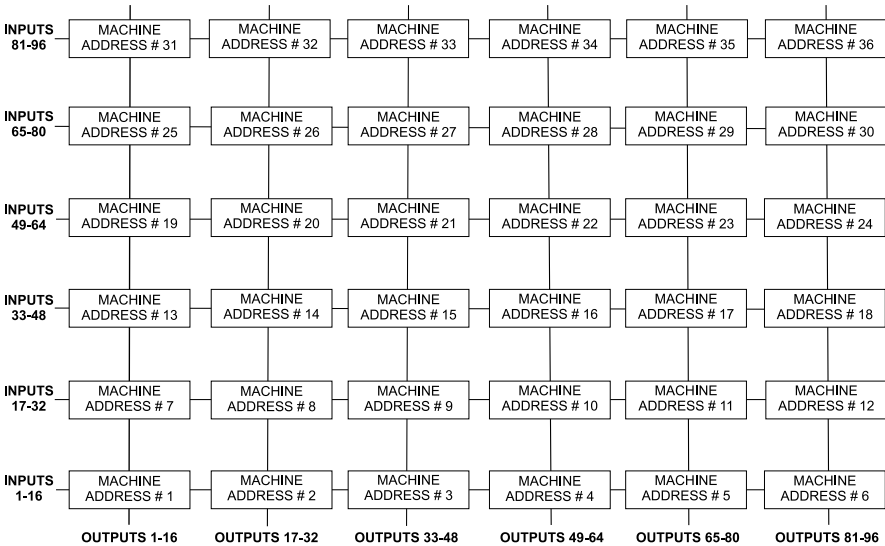
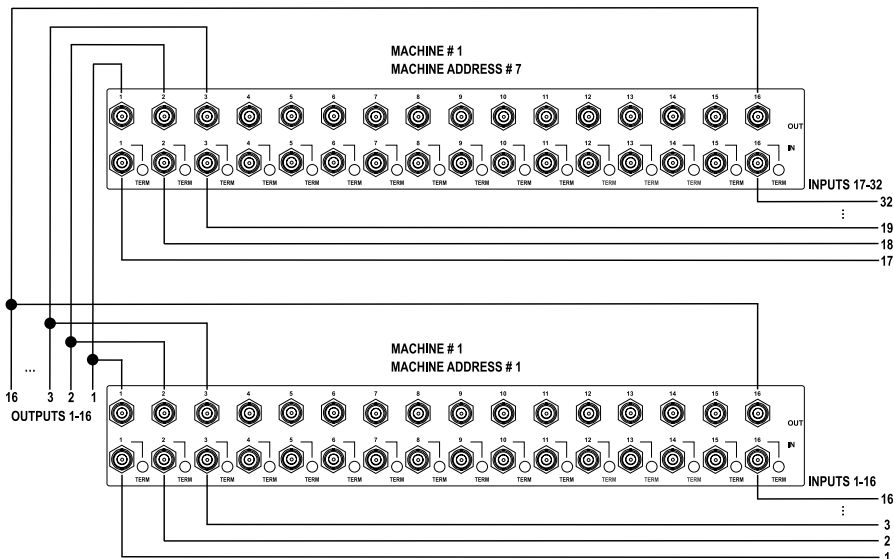
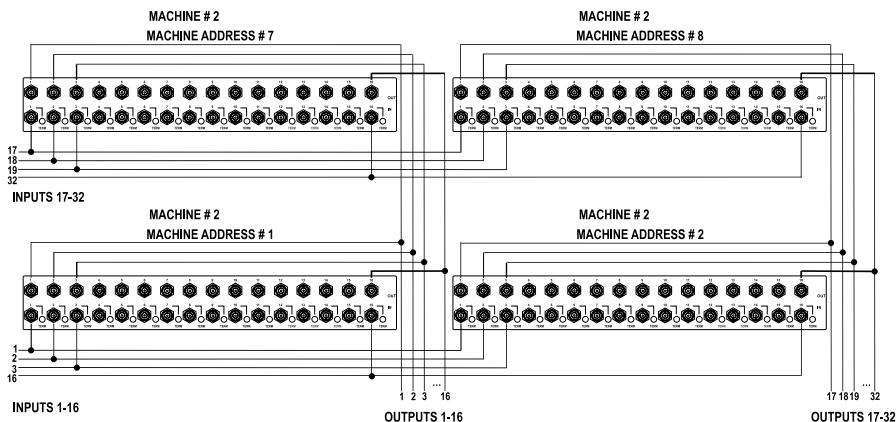

Figure 8: MACHINE ADDRESS # Designation
Figure 9: Connecting the 32x16 Switcher
Figure 10: Connecting the 32x32 Switcher
You can expand the number of inputs and outputs using several **VS-1616V** units¹. Set the **MACHINE ADDRESS #** (see section 6.5.2) on each **VS-1616V** unit to define which inputs and outputs are configured to that particular unit when expanding, as the chart in Figure 8 illustrates.
For example, to connect a 48x64 switcher (48 inputs and 64 outputs), you would configure using **MACHINE ADDRESS #** 1, 2, 3, 4; 7, 8, 9, 10; 13, 14, 15 and 16. You can only choose a rectangular² configuration from the chart in Figure 8.
As can be seen in Figure 8, a 32x16 switcher consists of 2 **VS-1616V** units (**MACHINE ADDRESS #** 1 and **MACHINE ADDRESS #** 7). To assemble, as Figure 9 illustrates:
3 For a single group, this is usually set to # 1, as in the example in Figure 9
2. Set the MACHINE ADDRESS # on one **VS-1616V** unit to 1 and on the other **VS-1616V** unit to 7 (refer to Figure 8).
As can be seen in Figure 8, a 32x32 switcher consists of 4 **VS-1616V** units (MACHINE ADDRESS # 1, MACHINE ADDRESS # 2, MACHINE ADDRESS # 7 and MACHINE ADDRESS # 8). To assemble, as Figure 10 illustrates:
2. Set the MACHINE ADDRESS # to 1, 2, 7 and 8 on each of the 4 units, respectively (refer to Figure 8).
¹ Set to # 1 in most cases. In the example in Figure 10, the MACHINE # is set to # 2
The MACHINE ADDRESS # is determined via the MACHINE ADDRESS Menu command, as section 8.4 describes. The MACHINE ADDRESS # defines which inputs and outputs are configured to that particular unit when expanding, as the chart in Figure 8 illustrates.